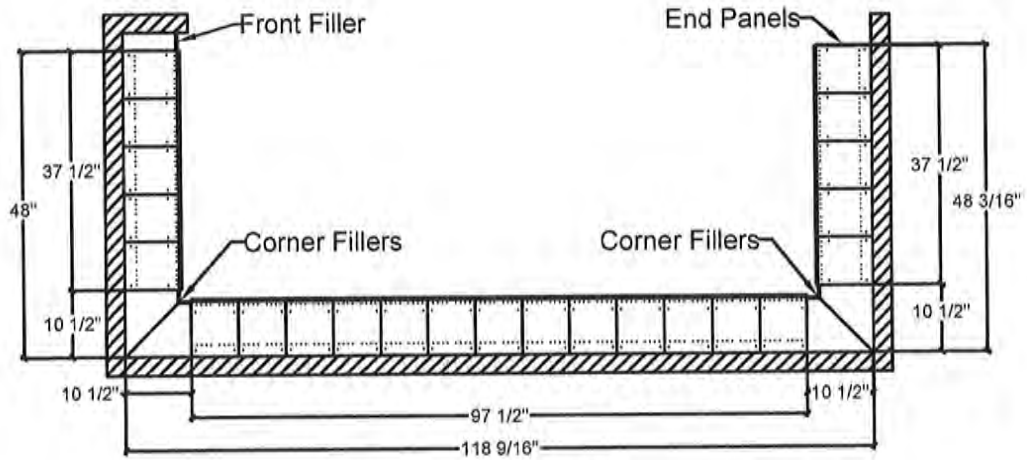

Figure 3.1 Top View
- 3.1 Using the top view locker layout sheet, mark on the walls the starting and ending point of each run of lockers, see Figure 3.1.